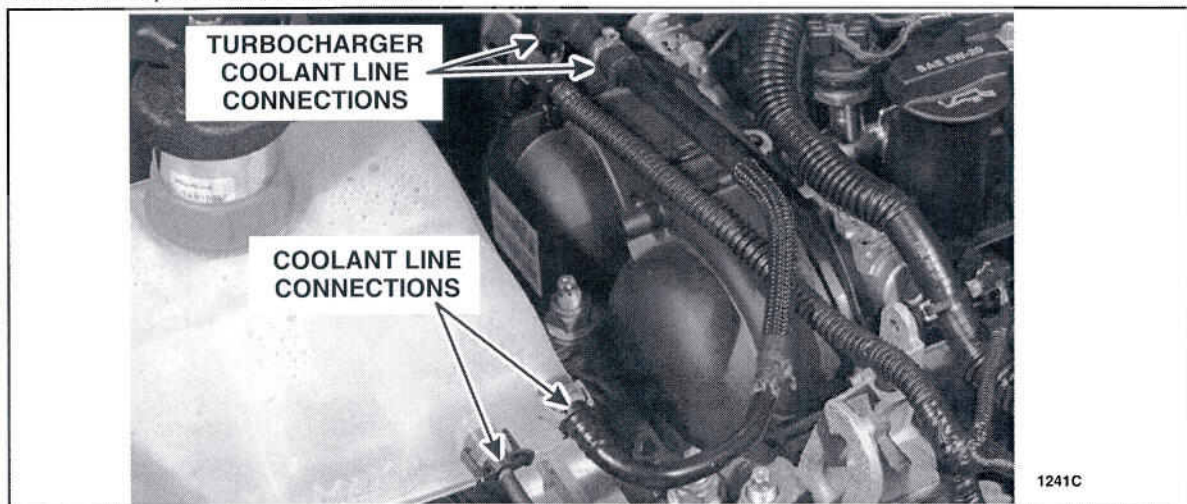

FIGURE 4
14. While maintaining pressure on the system, use a soap and water solution to spray/coat the coolant line connections that run from the turbocharger to the degas bottle. These lines typically contain coolant vapor, providing the degas bottle is not overfull. Observe for soap bubbles while the system is pressurized. See Figure 4.